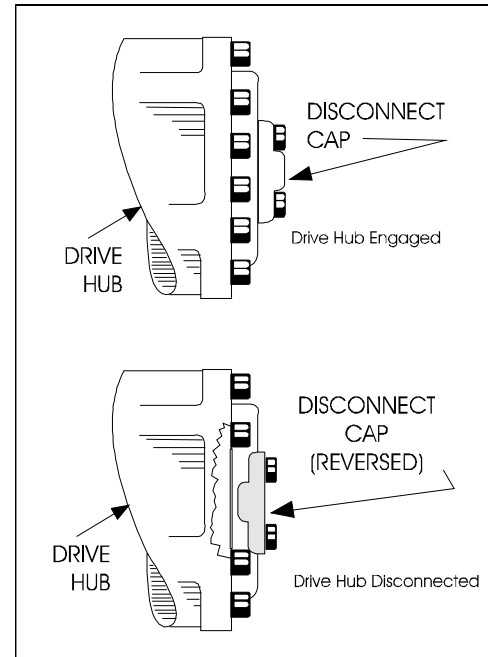

Figure 4-7. Drive Disconnect Hub
2. Disconnect drive hubs by inverting disconnect cap. Refer to Figure 4-7., Drive Disconnect Hub.